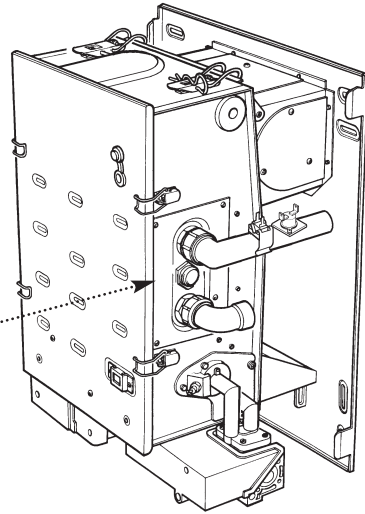

Fig. 83
1. The boiler has two side water connections, the top connection being FLOW and the bottom connection being RETURN (Fig. 83).